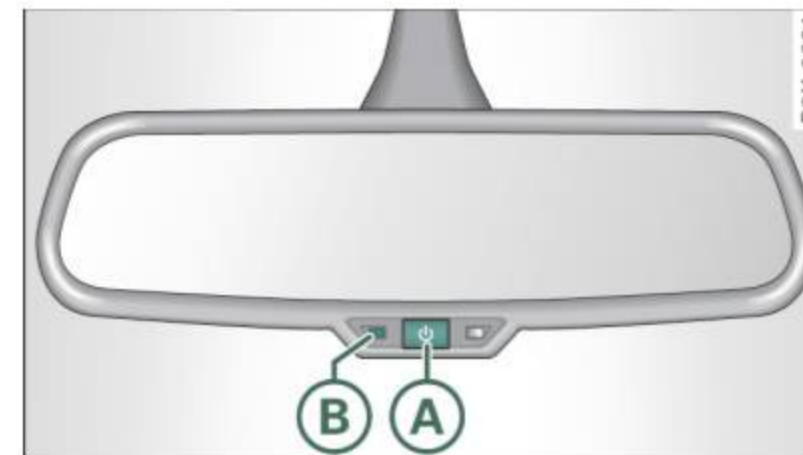

Fig. 65 Inside rear view mirror
- Press button **(A)** ⇒ *page 65, fig. 65 briefly*, - the indicator light **(B)** goes out.